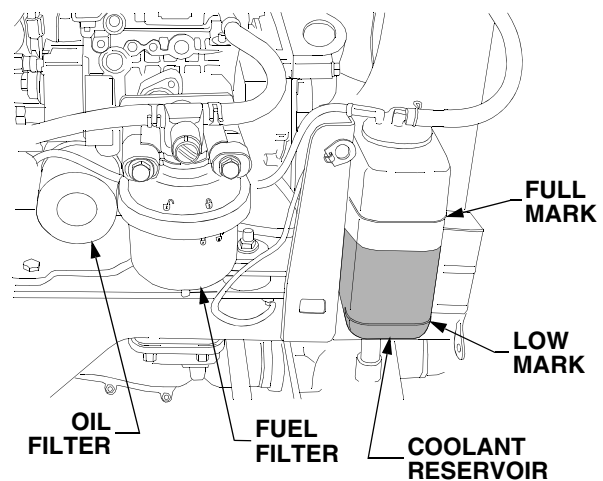

Figure 54
- Remove the filter by turning it counterclockwise using an automotive type filter wrench to loosen. See Figure 54.
- Raise the tractor hood and check the coolant level in the overflow reservoir on the *right* side of the engine. Refer to Figure 54.